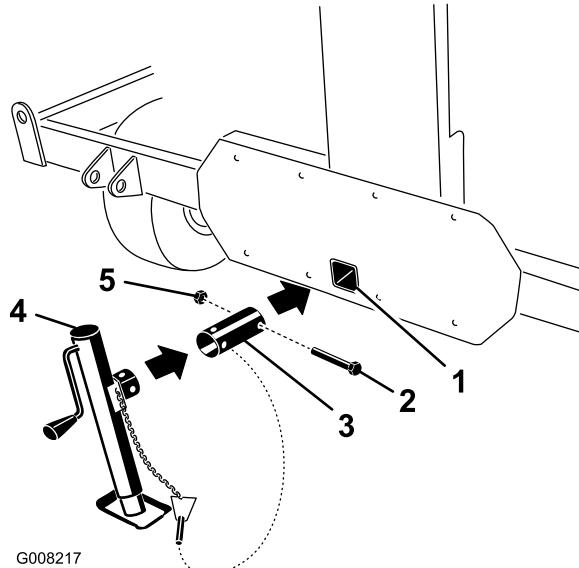
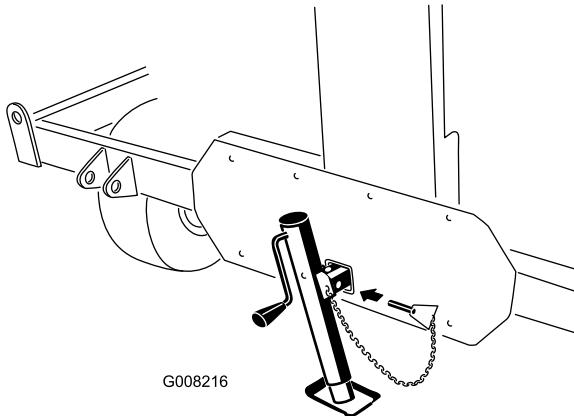

Figure 8
Figure 9
- 2. Insert the jack stand tube into the tow bar mounting hole (Figure 8).
- 4. Using the bolt and nut previously removed, secure the tube to the core processor (Figure 8).
- 5. Slide the jack stand onto the jack tube, align the mounting holes and secure with the lynch pin (Figure 8 & Figure 9).